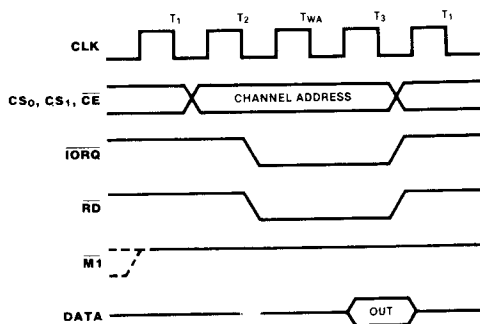

Figure 9. Read Cycle Timing
**Read Cycle Timing.** Figure 9 shows read cycle timing. This cycle reads the contents of a down-counter without disturbing the count. During clock cycle  $T_2$ , the CPU initiates a read cycle by driving the following inputs Low:  $\overline{RD}$ ,  $\overline{IORQ}$ , and  $\overline{CE}$ . A 2-bit binary code at inputs  $CS_1$  and  $CS_0$  selects the channel to be read.  $\overline{MI}$  must be High to distinguish this cycle from an interrupt acknowledge. No additional wait states are allowed.